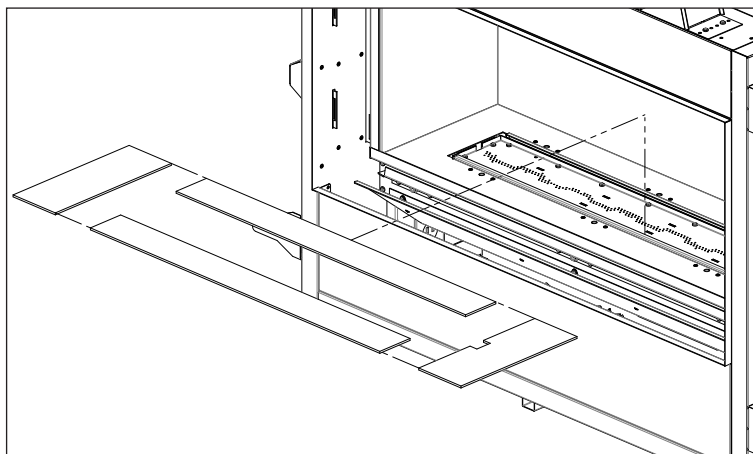

Figure 63: Burner Bezel Placement
2. Place the bezels directly onto the burner platform as shown in Figure 63. No fasteners are required.